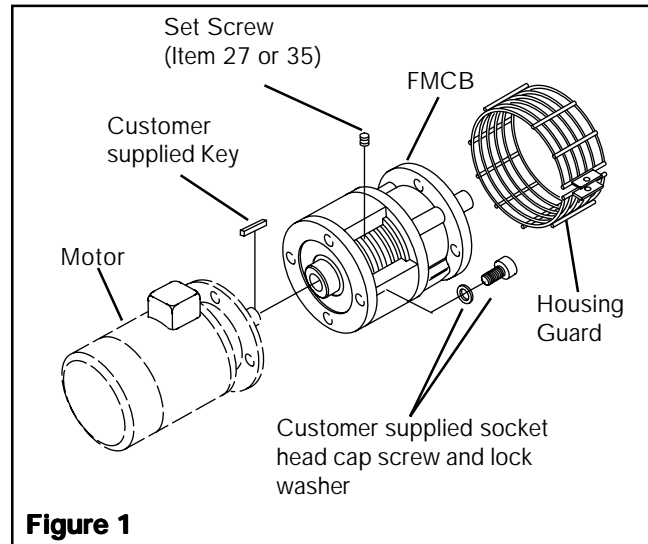

Figure 1
1. Insert the customer supplied key into the motor shaft keyway (See Figure 1).
2. Slide the FMCB onto the motor shaft, then secure it to the motor using customer supplied socket head cap screws and lock washers (See Figure 1).
3. Tighten the Set Screw (See Figure 1).
4. Install the Housing Guard over the open areas of the FMCB and secure it using the fasteners provided with the Housing Guard (See Figure 1).